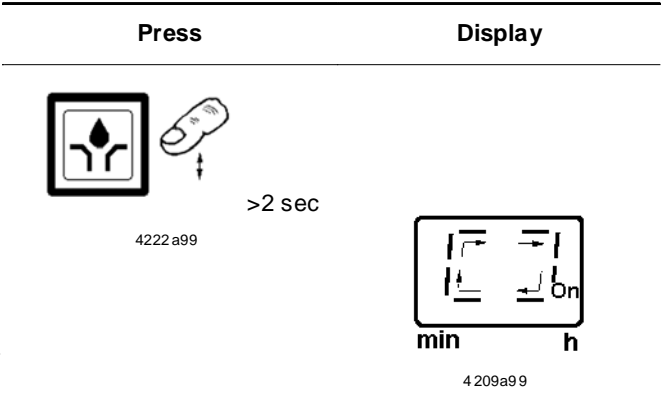

Fig. 13-2 Triggering an additional lubrication cycle
- ➔ Press pushbutton > 2 seconds to trigger an additional lubrication cycle (Fig. 13-2).
*If the reservoir has been completely emptied, the pump may require priming and a longer runtime to reach the full lubricant output. Therefore, if the occasion arises trigger additional lube cycles manually (Fig. 13-2).*